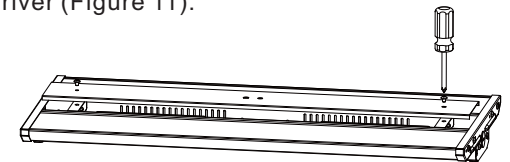

Figure9
- Step1. Open the face cover with screw driver (Figure 9)